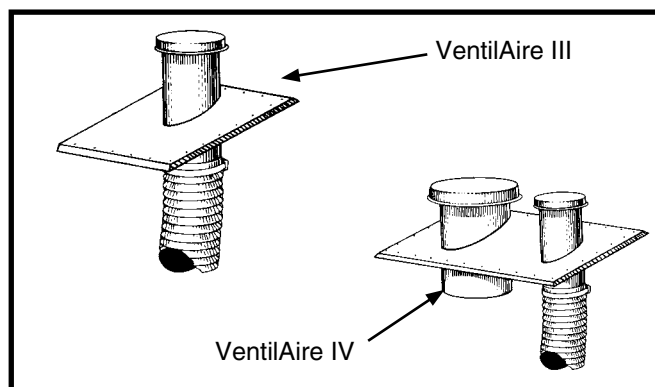

Figure 2. Ventilaire III & IV
The Ventilaire air quality packages are available to meet the ventilation requirements as outlined in H.U.D. Standard Part 3280.103 (b) (2). These packages introduce outdoor air into the living space during furnace blower operation. The Ventilaire IV also serves to exhaust moist and/or hot air from the attic space. See Figure 2 for typical installation. Complete installation instructions are supplied with each air quality package.